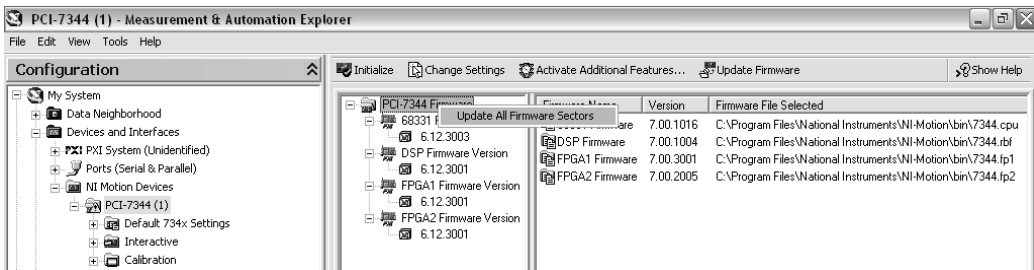

Figure 1. Updating the Firmware
5. Right-click the folder icon at the top of the firmware tree, and select **Update All Firmware Sectors**, as shown in Figure 1.